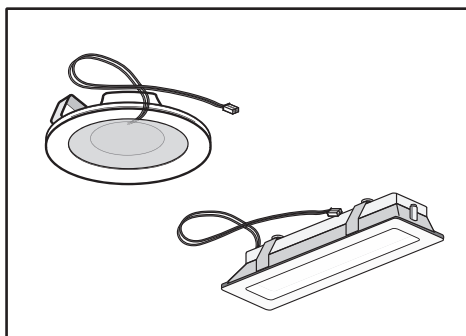

Fig.7
• **Replacing LED lamps (Fig.7):**